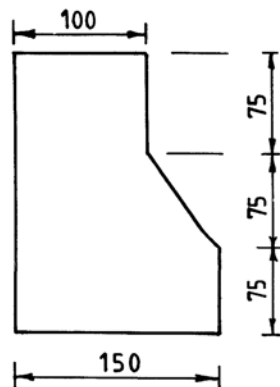

Fig. 2
10. Sketch a fully annotated vertical section through a mould box designed for the repetitive casting of twelve lintels to the sectional dimensions shown in Fig. 2.